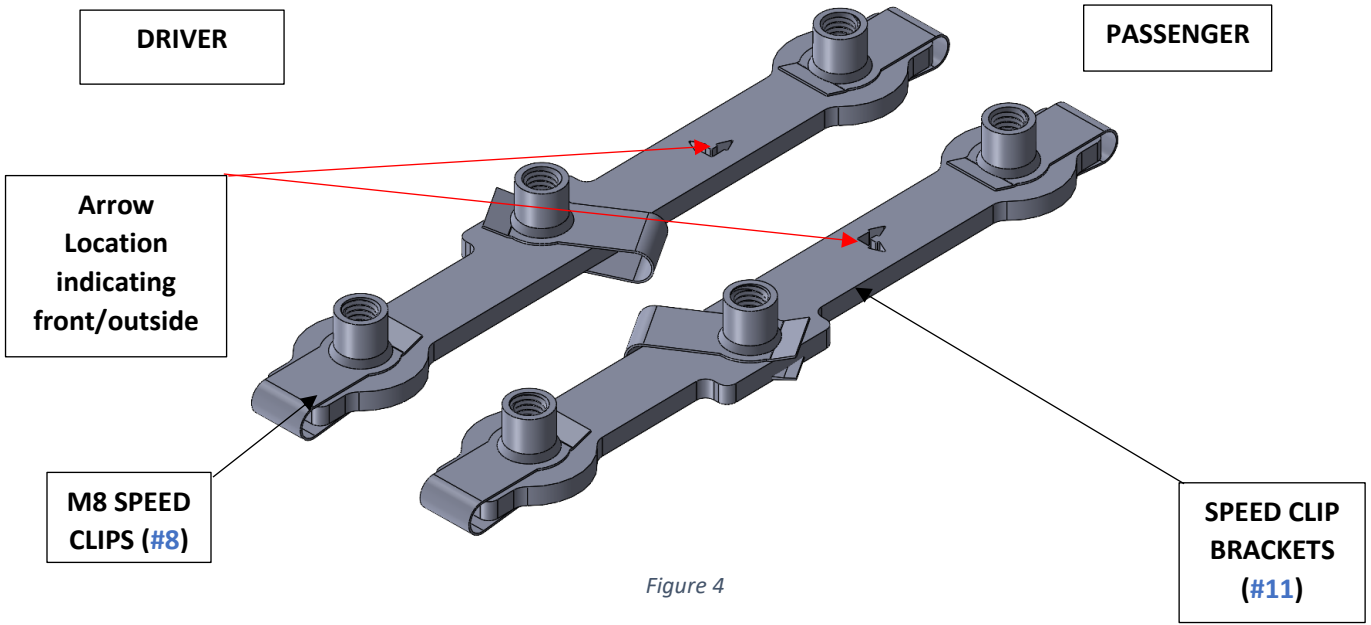

Figure 4
- 4) Collect the two (2) Speed Clip Brackets (#11) and install the six (6) M8 x 1.25 Speed Clips (#8) as shown in Figure 4.
5) On the Passenger side behind the front tires on the lower side of the frame there is a slot where the speed clip bracket needs to be installed through. They need to be inserted in the same orientation as shown in *Figure 4*. The locating arrow will be pointing towards the front and the outside of the vehicle. RCI recommends using a small screwdriver to assist in aligning the bracket.